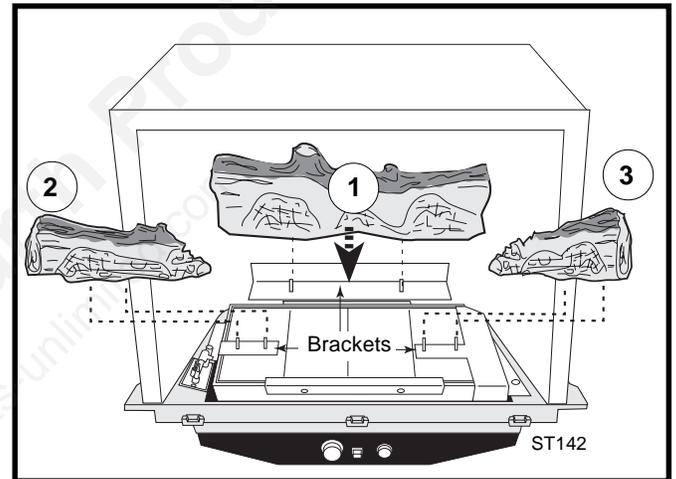

Fig. 20 Install rear and middle logs.
1. Install the rear log (#1, Fig. 20) by engaging holes on its bottom surface with pins on the sheet-metal shelf at the back of the firebox.
2. Install the left and right middle logs (#2 and #3, Fig. 20) by engaging holes on their bottom surfaces with pins on the burner brackets.